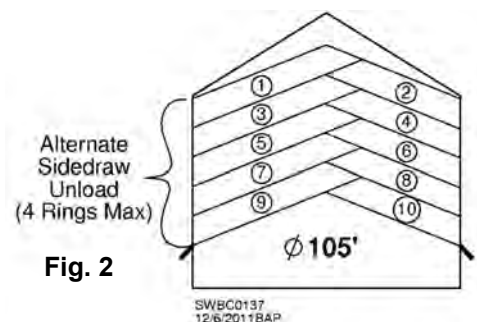

Fig. 2
- Alternate usage of sidedraws in bins 105' in diameter to reduce stress on bin. It is best to unload no more than four (4) rings of grain before switching to other sidedraw. See Fig. 2 as a guide.